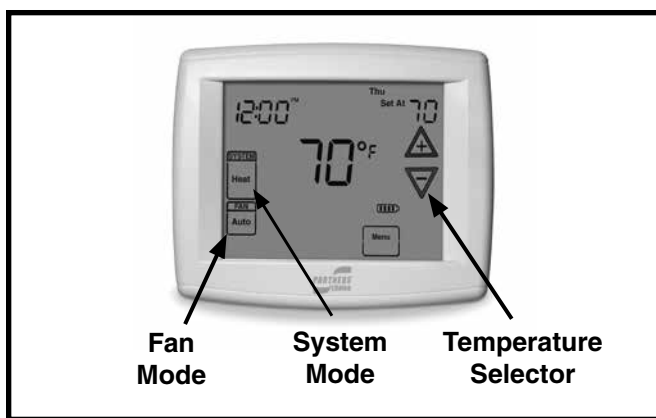

Figure 1. Digital Thermostat
1. Set the thermostat's system mode to COOL or AUTO and change the fan mode to AUTO. See Figure 1, \(page 3\).
1. Set the thermostat's system mode to HEAT or AUTO and change the fan mode to AUTO. See Figure 1.
Set the thermostat fan mode to ON (Figure 1). The indoor blower starts immediately, and will run continually until the fan mode is reset to AUTO.
Change the thermostat's system mode to OFF and the fan mode to AUTO. See Figure 1. **NOTE:** The system will not operate, regardless of the temperature selector setting.